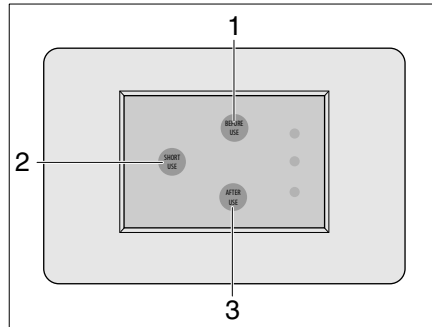

Fig. 367 Panel macerator toilet
- Press the Short-Use-button (Fig. 367,2).
- Before going to the toilet, press the Before-Use button (Fig. 367,1).
- After using the toilet, press the After-Use button (Fig. 367,3).